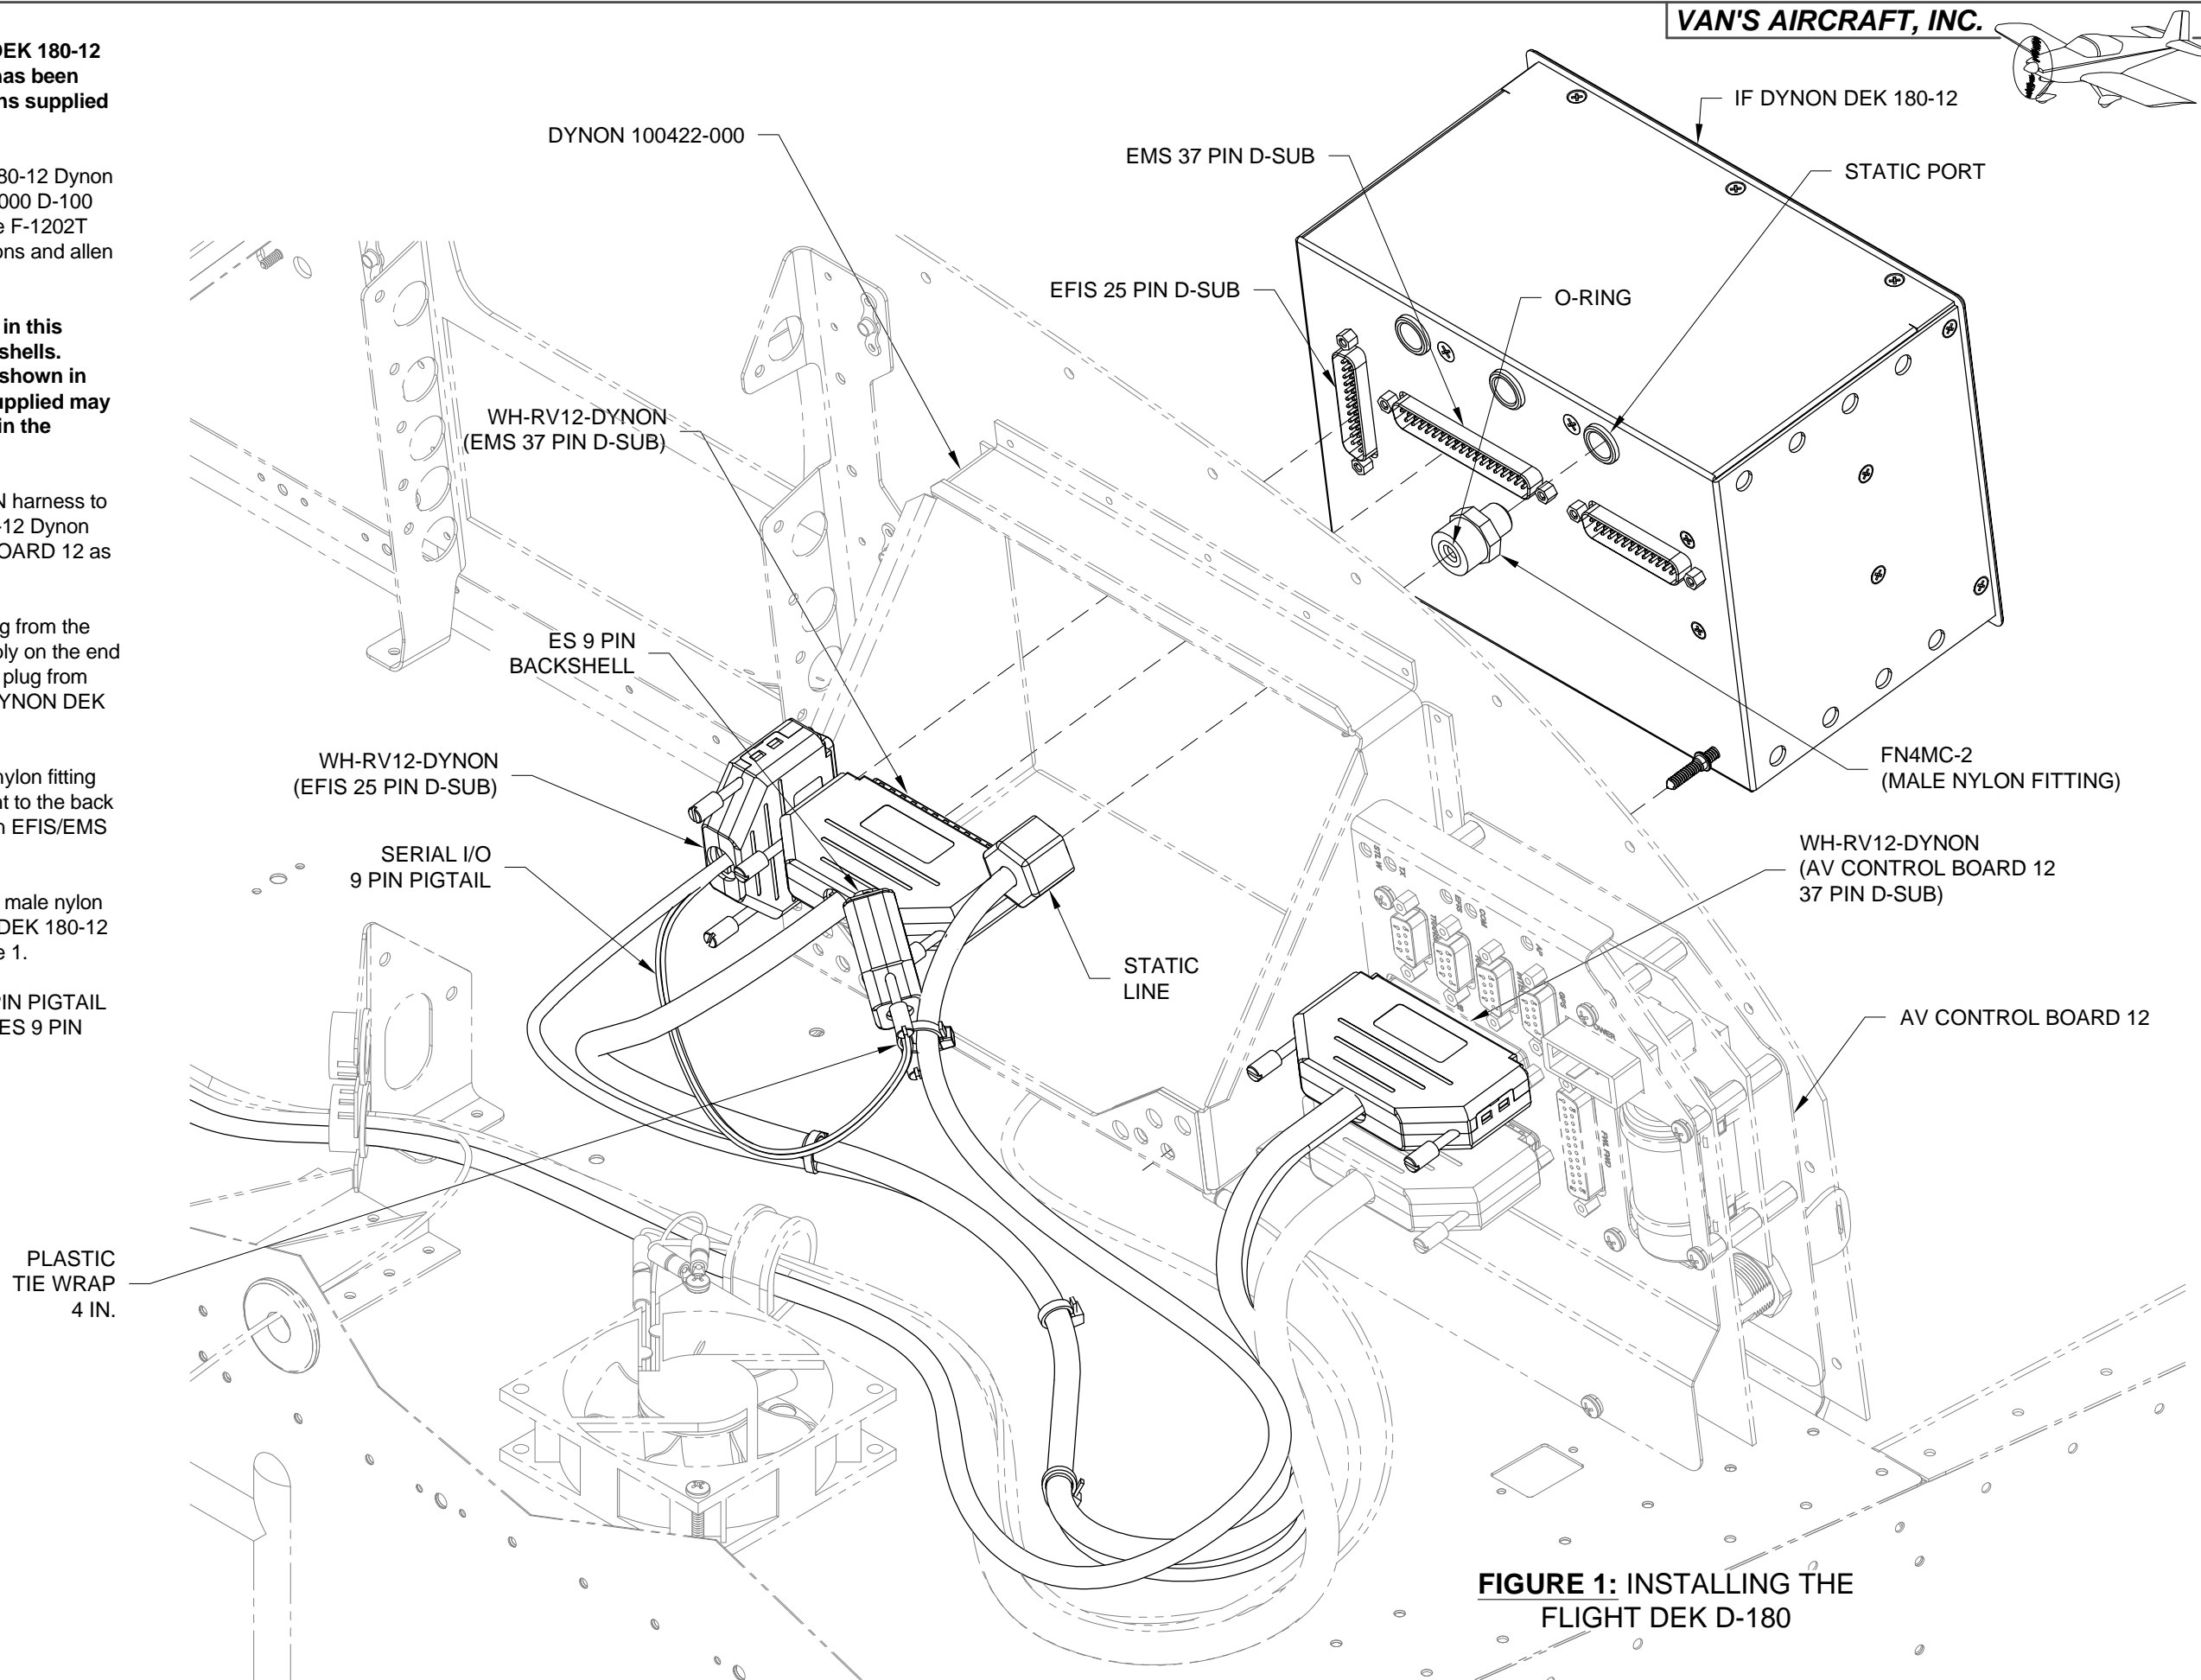

FIGURE 1: INSTALLING THE FLIGHT DEK D-180
Step 5: Install the static line onto the male nylon fitting on the back of the IF DYNON DEK 180-12 Dynon EFIS/EMS as shown in Figure 1.
Step 1: The WH-RV12-GTX327 Transponder Wiring Harness is supplied already connected to the back of the AV GARMIN GTX327 Digital Transponder Backplate. Route the harness through a snap bushing on the F-1202K-L Inst Stack Support and through the cushioned clamp near the left ES CPU FAN. Connect the harness to the back of the AV CONTROL BOARD 12. See Figure 1. Connect the digital transponder backplate to its tray per the instructions provided with the transponder (this may have already been completed).